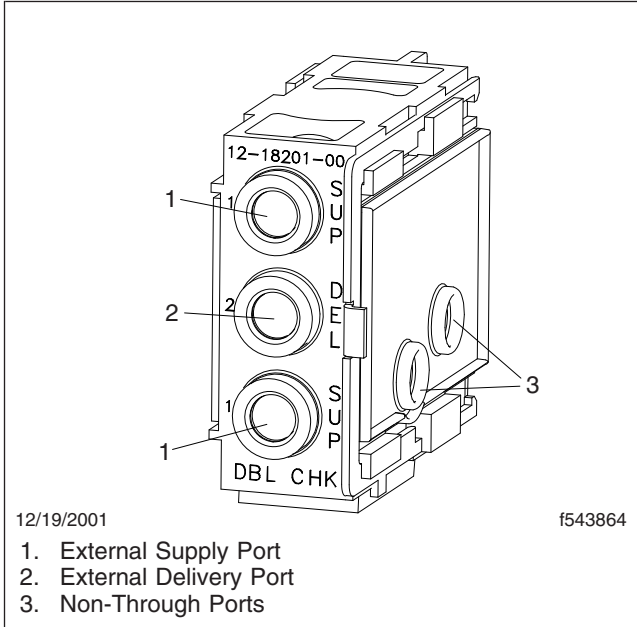

Fig. 1, Double-Check-Valve Module
4. Find the double-check-valve module on the AMU. See Fig. 1.